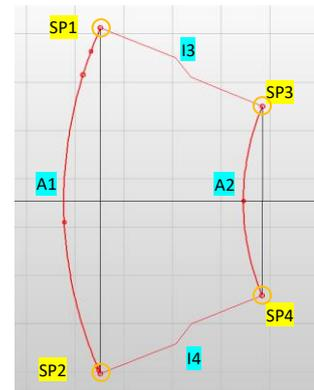

Figure 43
7. **BREAK:** The Bulkhead cut should be divided into four segments (Figure 43): One outer arc segment on the left **A1**, another inner arc segment on the right **A2**, and the two symmetrical interface segments, one at the top **I3** and one at the bottom **I4**.
- b. Select the geometry and position the first split point **SP1** on the top left (Figure 43).
- c. Place the second split point **SP2** on the bottom left (Figure 43).